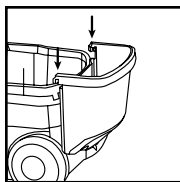

FIGURE 14
19. Insert tabs of accessory basket into slots on rear of tank. **FIGURE 14.**